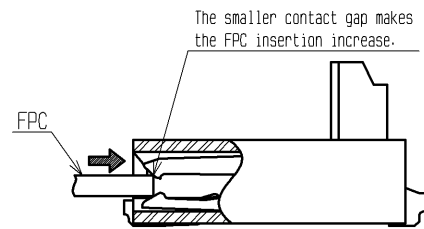

Figure:1
- Do not close the actuator before inserting FPC. Closing the actuator without FPC could make the contact gap smaller, which could increase the FPC insertion force when FPC is inserted. (Figure:1)